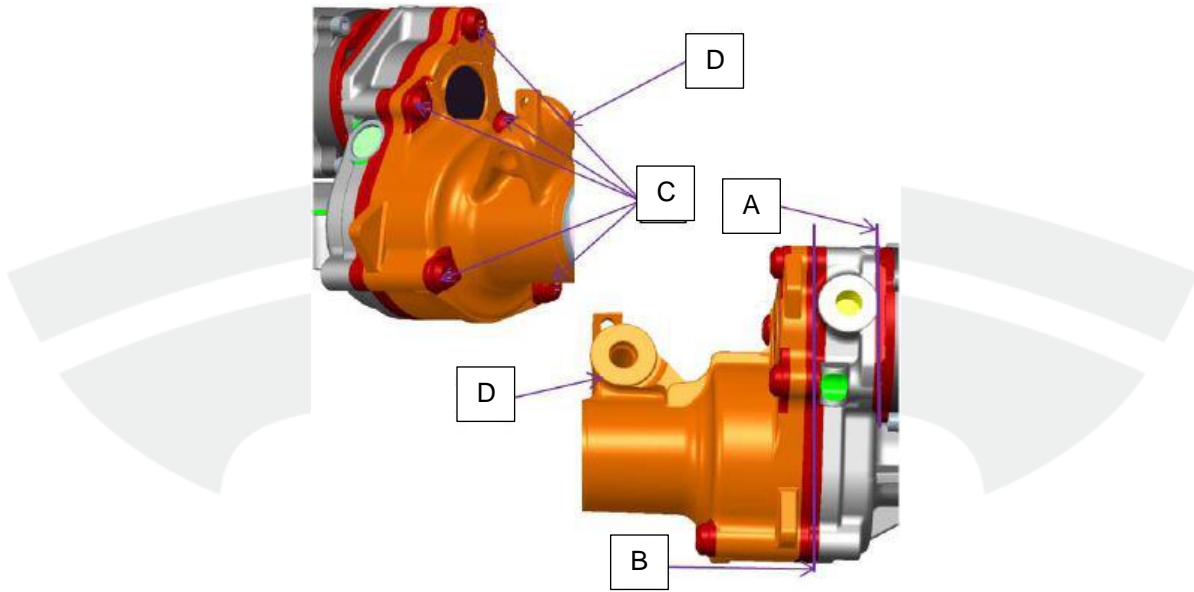

Figure 32
40. Apply the wax sealant to the steering rack housing bolts and the steering rack housing seams. Make sure to apply wax sealant to the underside of the steering rack, as well as the motor housing. Completely cover the following areas with the wax sealant (Figure 32):